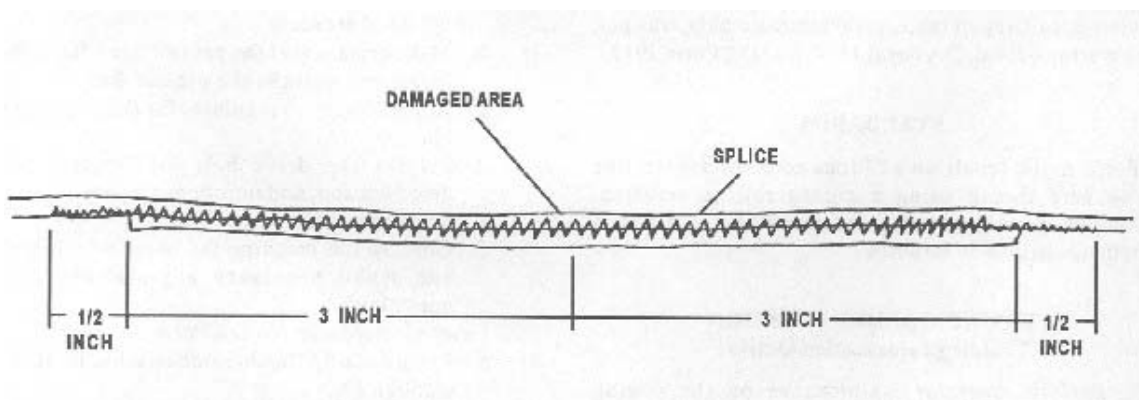

Figure 3-52
- NOTE: A suspension line or vent line may be spliced one time. (See Figure 3-52)